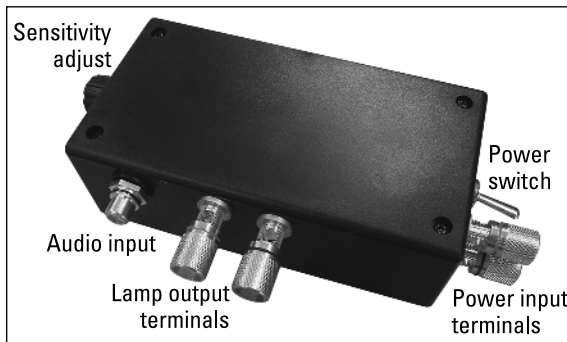

Figure 1-1:
The completed colour organ is shown in Figure 1-1; we house the project in a 130 x 68 x 44 mm box. It has terminals to which you can connect a 12 V power supply, terminals to which you can connect halogen lamps (maximum 12 V/50 watts (W)), an RCA-style audio input connector for connecting a sound source to (maximum 60 W), a knob for adjusting sensitivity and a power switch.